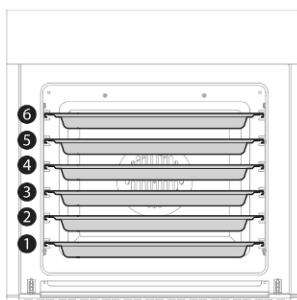

Fig. 3
- When using several trays or containers, provide enough distance to ensure adequate air circulation (fig. 3).